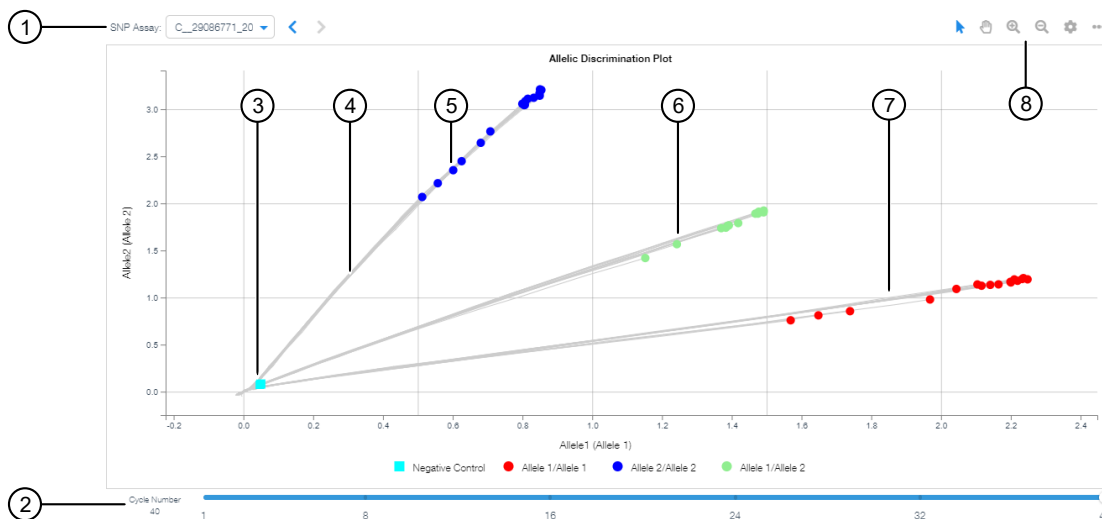

Figure 1 Allelic Discrimination Plot
1. In the **Genotyping** tab, in the upper-left corner of the **Allelic Discrimination Plot** pane, select an assay from the **Assays** list (see Figure 1 on page 14).
4. Visually evaluate clusters for the three possible genotypes (see Figure 1 on page 14).
Real Time Data ^[2]	The normalized reporter data (Rn) from the selected cycle of the cycling stage is used to determine calls. Analysis is not restricted to the last cycle. Adjust the analysis cycle using the Cycle Slider in the Allelic Discrimination Plot pane (see Figure 1 on page 14).